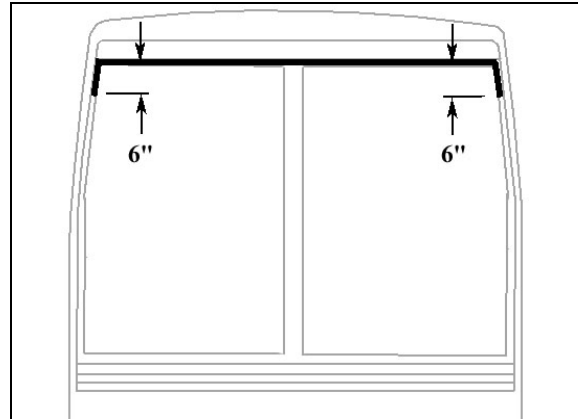

FIGURE 53: APPLICATION OF SIKA 221 BLACK
- At the top of windshield, clean surface between fiberglass and rubber extrusion using Sika 205 (Fig. 53).